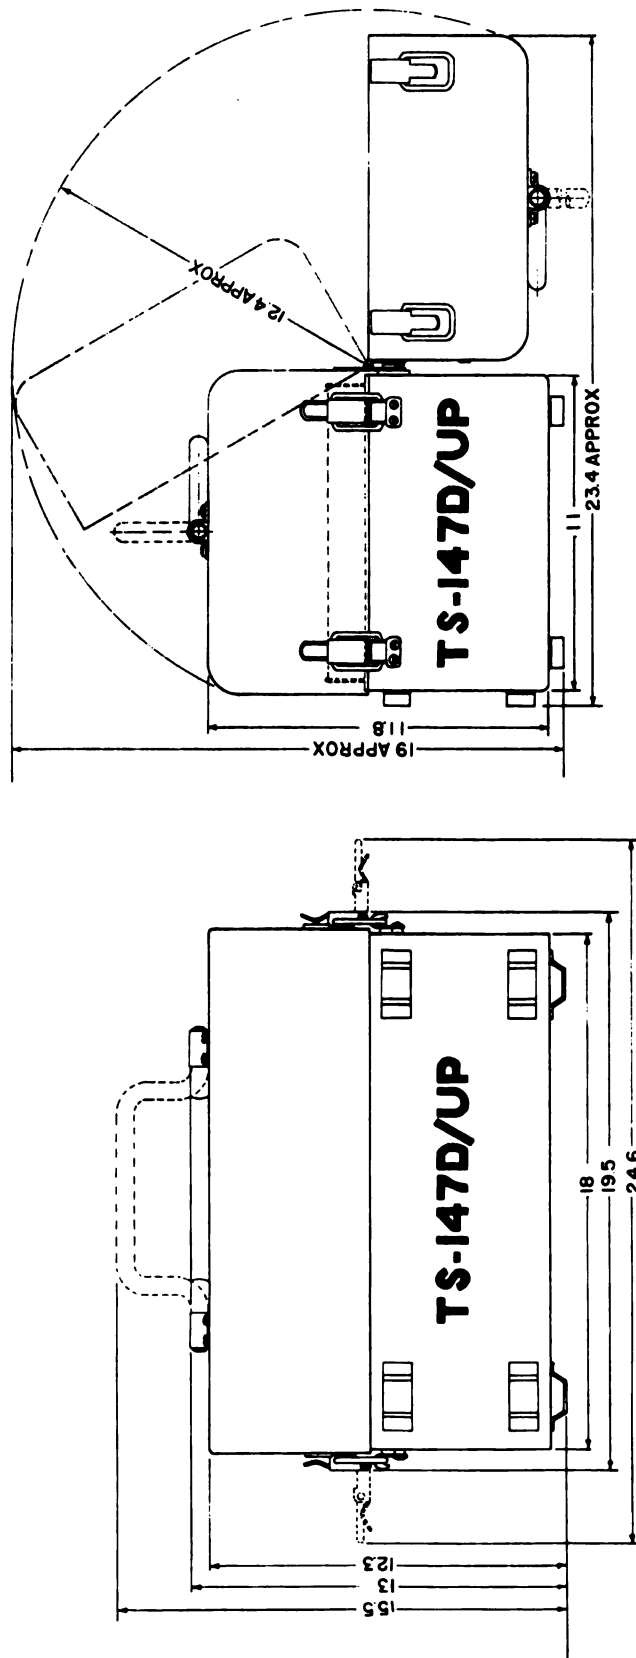

Figure 3-3. Test Set TS-147D/UP Outline Dimensional Drawing
(1) Test Set TS-147D/UP is a portable instrument that requires no permanent location. It should be placed in such a position that the controls of the equipment being tested and those of the test set can be adjusted simultaneously. Also, the patterns on the oscilloscope should be visible. The temperature rise is such that the ventilation ports above and below the front panel must be kept unobstructed.
(2) If necessary, the test set can be strapped to a flat top bench by any convenient means, provided that at least 6 in. space on the top, rear, and each side is left clear for ventilation. The mounting feet insure adequate space on the bottom. With the cover removed, the space required is as follows: height 17.8 in., width 31.5 in., depth 14.0 in.
d. OUTLINE DIMENSIONS.—Figure 3-3 gives the outline dimensions of the test set.